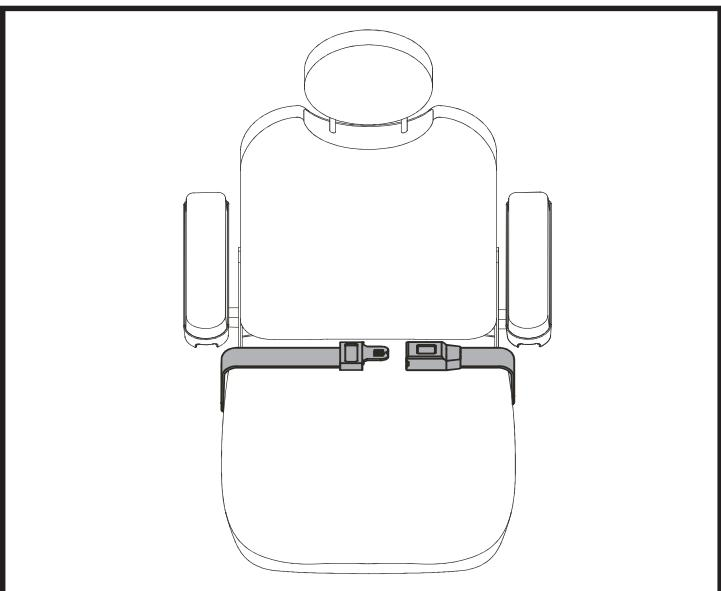

Figure 11. Positioning Belt Adjustment
Your power chair may be equipped with a positioning belt that can be adjusted for operator comfort. See **figure 11**. The positioning belt is designed to support the operator so that he/she does not slide down or forward in the seat. The positioning belt is not designed for use as a restraining device.
1. Once seated, insert the metal tab on one side of the belt into the plastic housing on the opposite side until you hear a click. See **figure 11**.